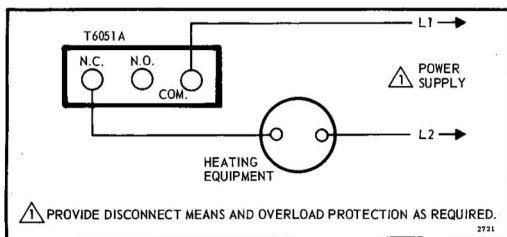

Fig. 3—T6051A used in heating only application.
6. Connect the heating and/or cooling system wires or the Series 60 equipment wires to the back terminals of the thermostat. See Figs. 3–10.